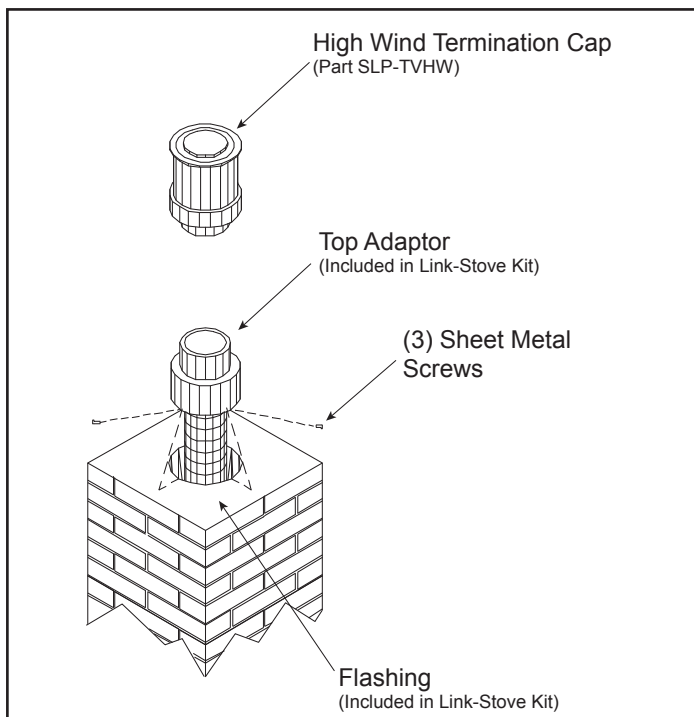

Figure 4.28
8. Secure the top adapter to the flashing. Use three sheet metal screws through the side of the top adapter into the flange on the flashing. See Figure 4.28. Twist lock the high wind termination cap on to the top adapter.